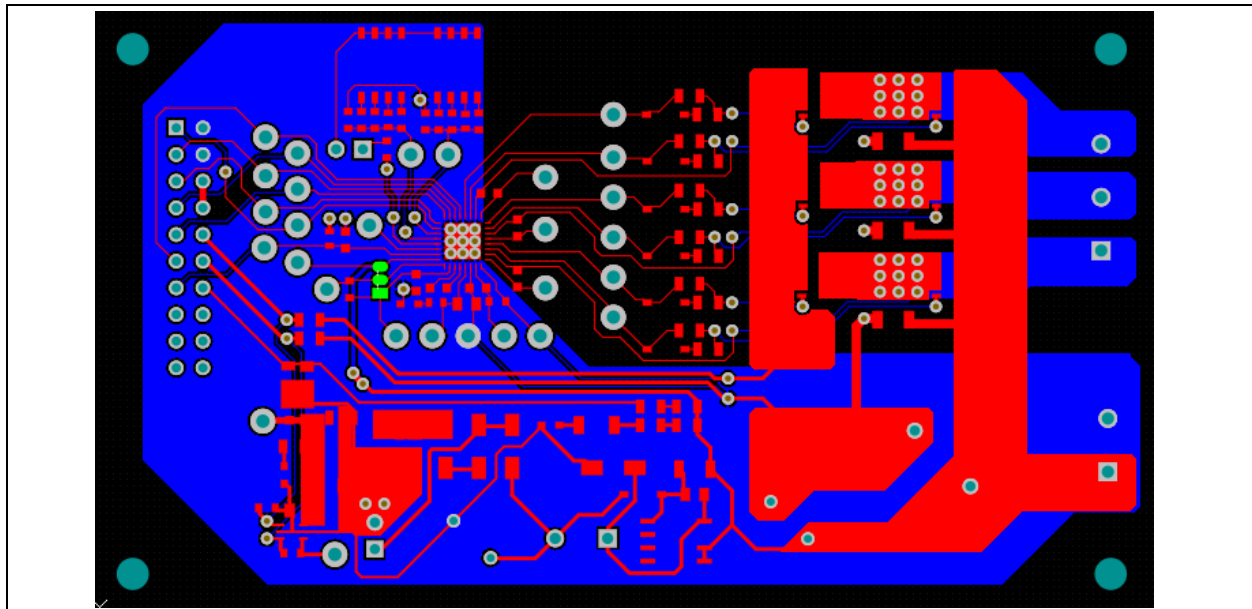

Figure 30 Optimal layout of 6ED2742 driving three phases of OptiMOS™ MOSFETs
**Gate Drive Loops:** Current loops behave like antennas and are able to receive and transmit EM noise (see Figure 30). In order to reduce the EM coupling and improve the power switch turn on/off performance, the gate drive loops must be reduced as much as possible. Moreover, current can be injected inside the gate drive loop via the MOSFET collector-to-gate parasitic capacitance. The parasitic auto-inductance of the gate loop contributes to developing a voltage across the gate-emitter, thus increasing the possibility of a self turn-on effect.